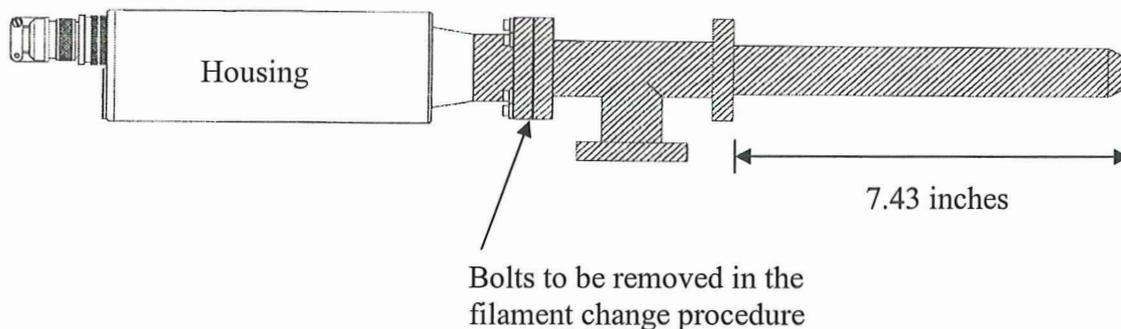

Figure 3. Ion Gun Schematic.
In some case a custom made 2-3/4" CFF spacer nipple may be necessary in order to obtain the desired working distance from the gun final lens to the sample. Figure 3 and section II provide the relevant details to assist in the design of this nipple.
1. Pump the chamber to a pressure of 1×10^{-7} Torr or better. Wrap the cross hatched region shown in figure 3 and the differential pumping lines with a heater tape or blanket.
- 4) Remove the six $\frac{1}{4}$ -28 bolts on the flange closest to the gun housing (see figure 3) and remove the optical column assembly. A slight back and forth rotation of the optical column may make it easier to withdraw the optical column from the column housing.